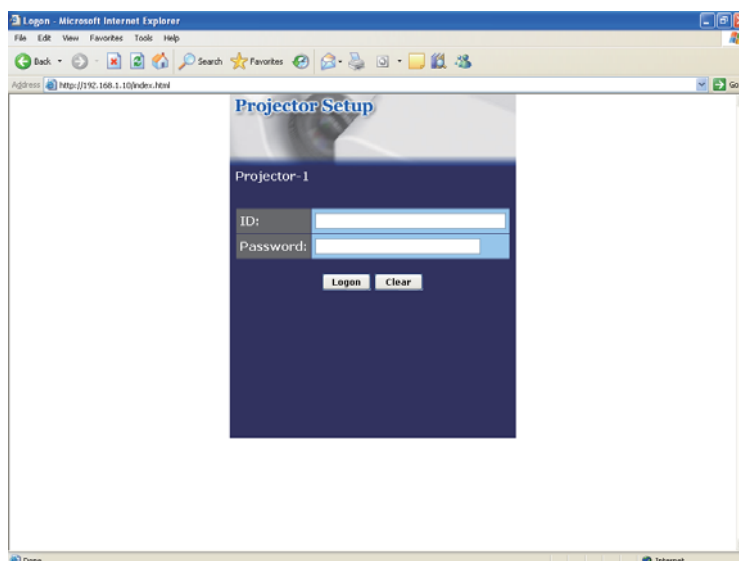

Fig. 2.2.4 “Logon Menu”
2) If Fig. 2.2.4 appears, it succeeds.